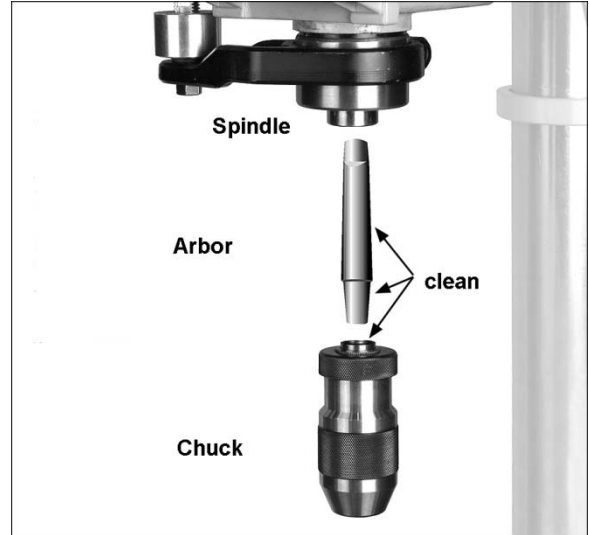

Figure 11
17. Thoroughly clean entire arbor and inside of chuck (Figure 11) with a soft rag and solvent, such as mineral spirits. Any grease or residue in these areas can cause the pieces to separate, creating a safety hazard and potential damage to the tool.